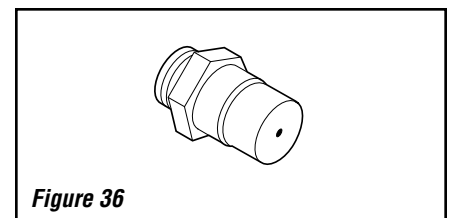

Figure 36
- Remove the orifice from the manifold and replace it with the one provided in the kit. See **Table 7** for orifice sizes for natural and propane models. **Figure 36** illustrates the orifice. Always check and verify orifice size.